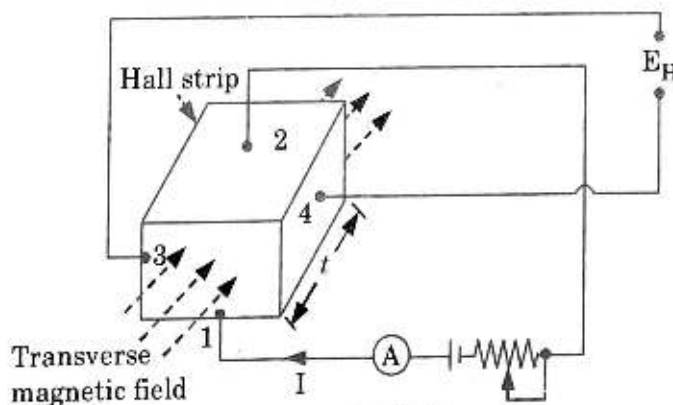

Fig. 5.15.1.
4. Let us consider Fig. 5.15.1 where current is passed through leads 1 and 2 of the strip.